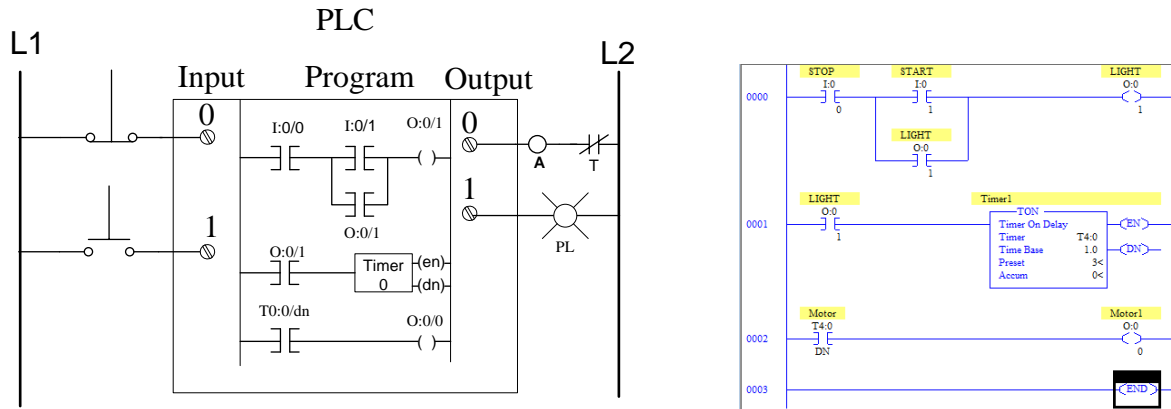

Figure 5: Modified PLC program to add a delay. Figure on the right shows the actual ladder logic program
Figure 5.: On-Delay timer. When the input is energized, the timer starts. At the end of the timer, the pin 1 and 4 will open and pin 1 and 3 will close. Similarly, pin 8 and 5 will open and pin 8 and 6 will close. The action of switches dictates that pair of Pin 1-3 and 8-6 are On-Delay NO switches, and a pair of Pin 1-4 and 8-5 are On-Delay NC switches.
In this exercise, we will assume that people around the motor must be warned with red light before the motor turns on (as in airport luggage conveyor belt). A red light should turn on 3 seconds before the motor starts. Change the ladder logic to as shown in figure 5.
- Your diagram should look similar to the one shown in figure 5.